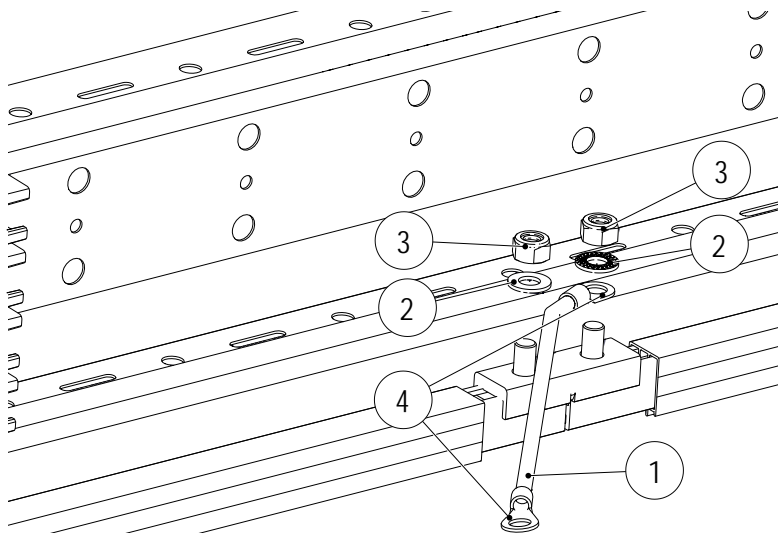

Fig. 53: Install PE cable (1) on PE rail connector
1. Attach a ring terminal (4) to each end of the PE cable (1) (see Fig. 53).
2. Tighten the PE cable (1) with locking edge washer (2) and hexagon nut (3) to the connector bolts of the PE rail with a torque wrench (SW 13, torque: 12 Nm) (see Fig. 53).